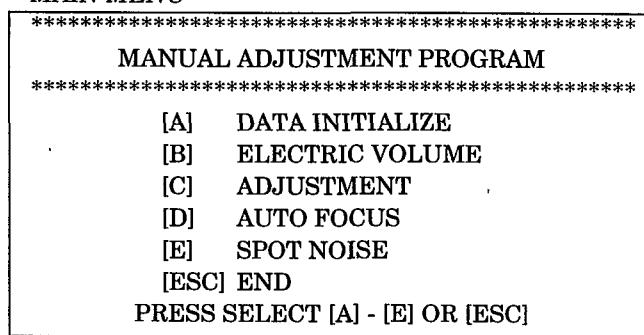

Fig. 3-23
- 2) Press **D** to select AUTO FOCUS. (Figs. 3-23, 3-24, 3-25)